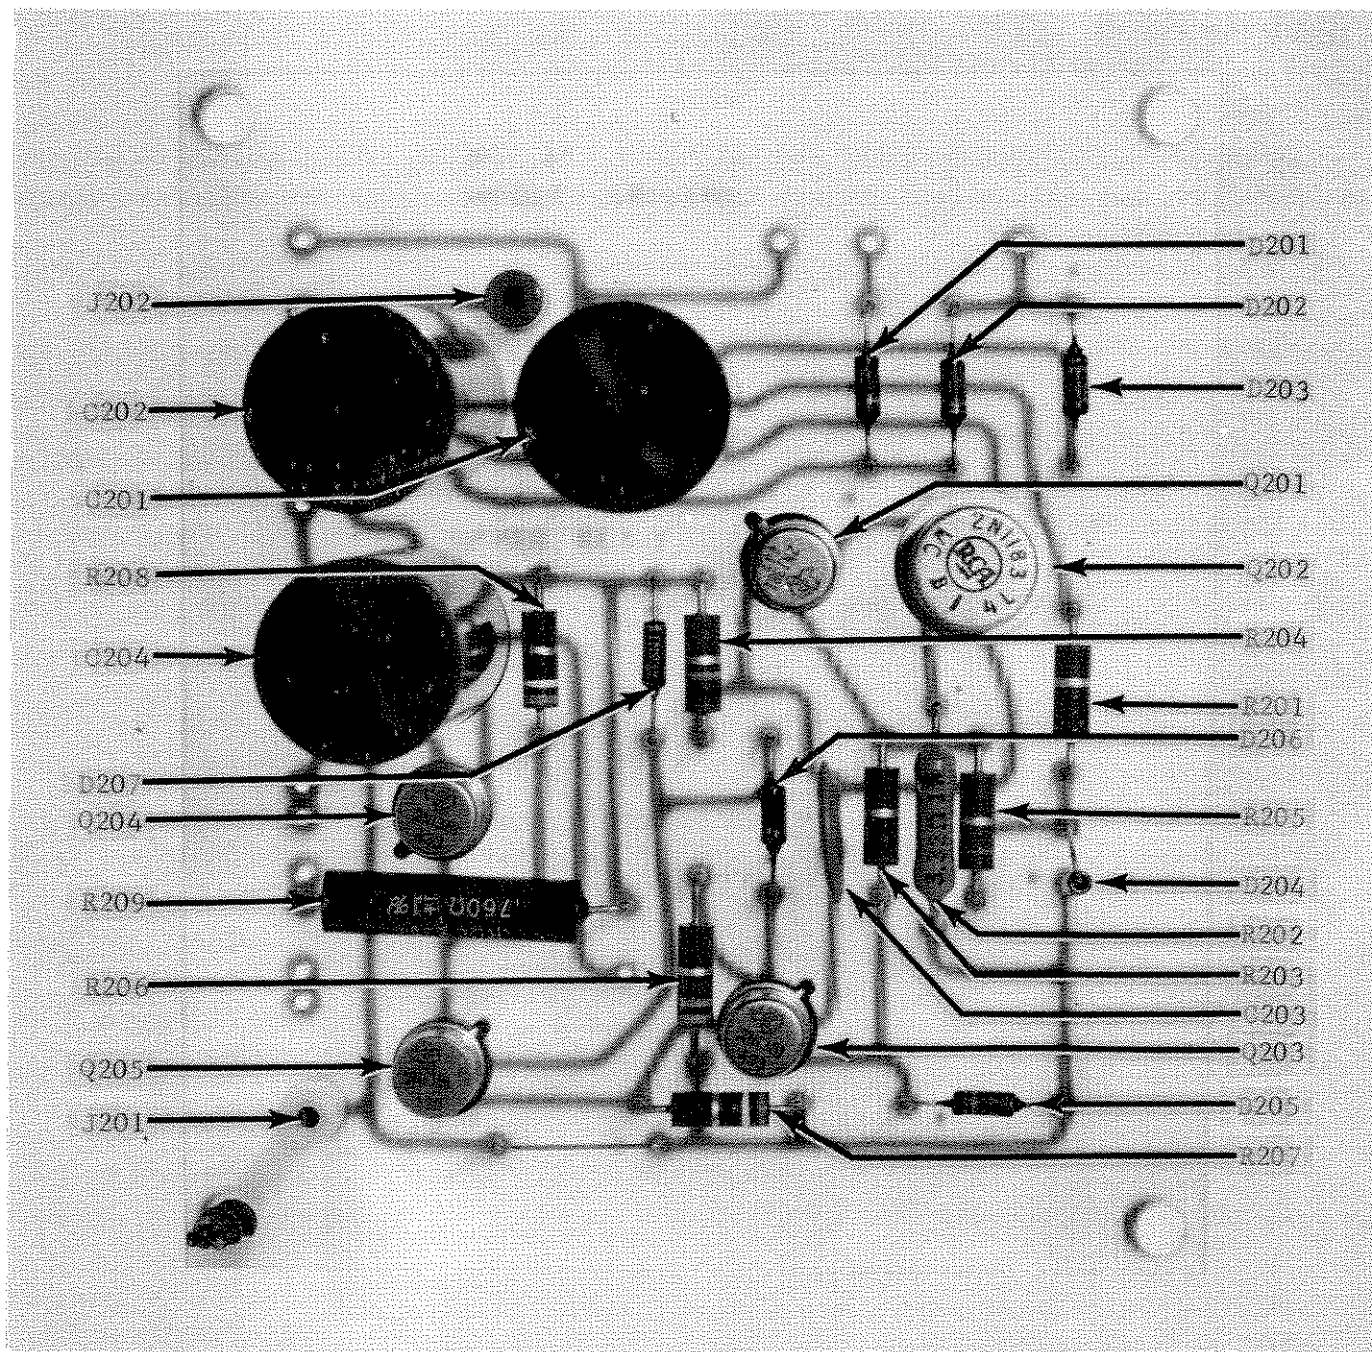

FIGURE 7. Component Locations on Printed Circuit PC-94.
1. Set the POLARITY Switch to + and connect the dc voltmeter between the red test jack, J202, and the emitter of transistor Q202 (Figure 7). The voltage should be -12 volts.
3. Measure the voltage at the anode of diode D204 (Figure 7). It should be -17 volts $\pm 10\%$. If this bootstrap voltage is not sufficient, transistor Q203 (Figure 7) will not operate and transistors Q201 and Q202 will be cut off.
1. Warm up the Nanovolt Source for two hours. Check the power supply output across capacitor C204. Voltage between terminals J201 and J202 (Figure 7) should be 12 volts $\pm 5\%$.